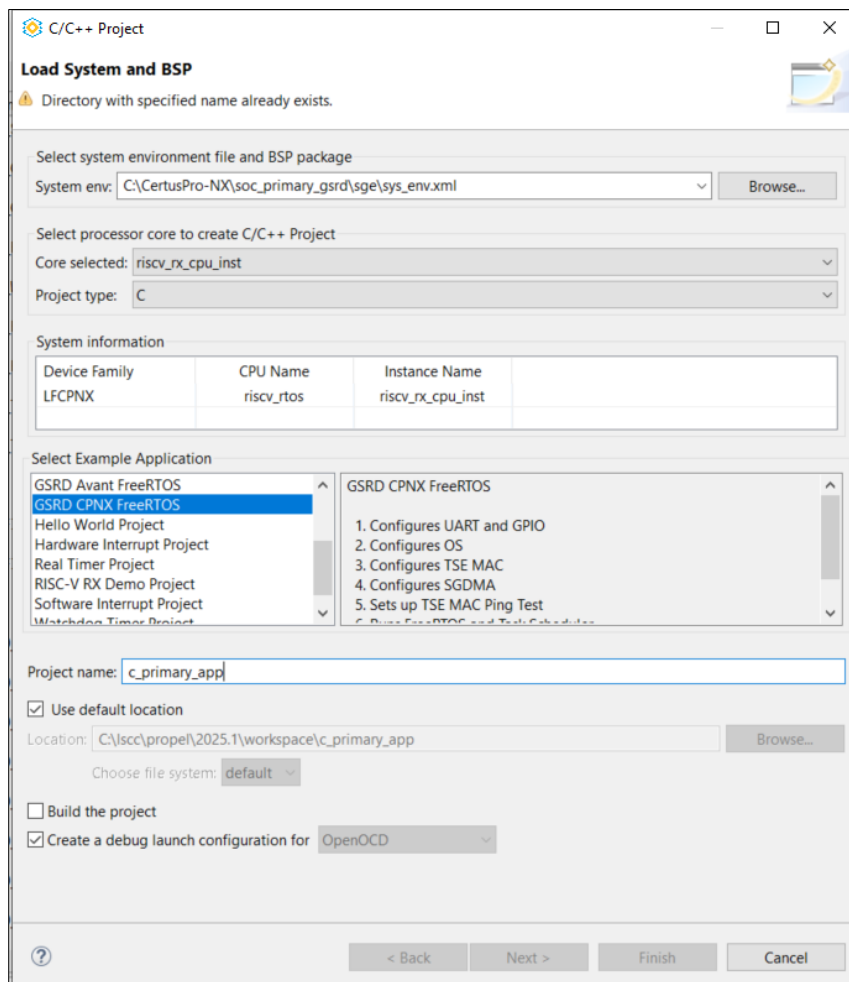

Figure 7.35. FreeRTOS C/C++ Selection
2. In the *Select Example Application*, select the **GSRD CPNX FreeRTOS** project. Provide the project name as shown in Figure 7.35.